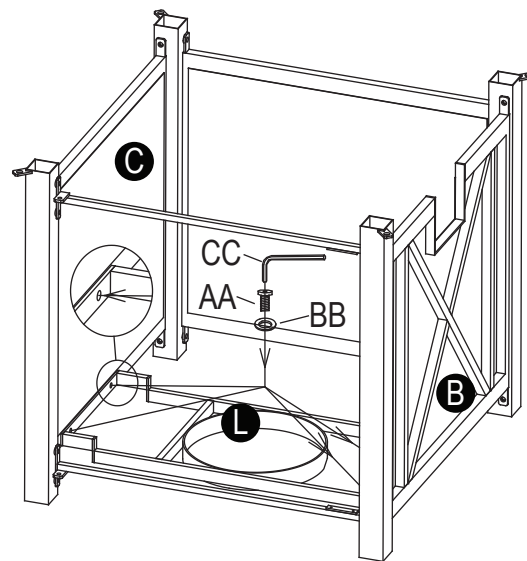

Figure 5
5. Attach the Gas Cylinder Support (L) to the Right Panel (B) and the Left Panel (C) with Bolt (AA) and Washer (BB) using the Hex Screw Driver (CC), (see Figure 5).